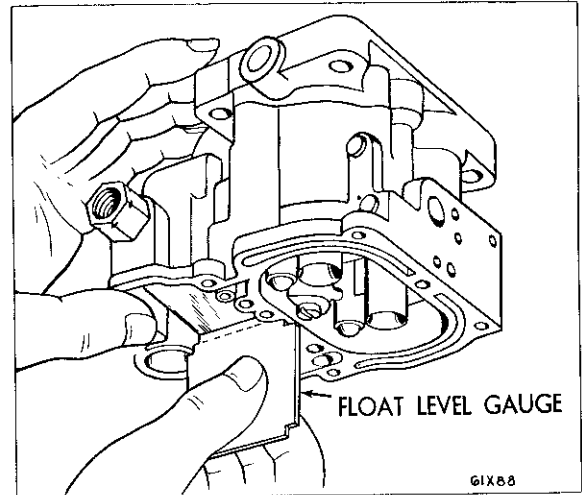

Fig. 28—Testing Float Setting
(1) Invert the main body so that the weight of the floats only is forcing the needle against the seat. **Be sure hinge pin does not drop out of the float hinge.**
(2) Using Tool 73725 or a "T" scale, measure the float level, as shown in Figure 28. There should be 1/8 inch from the surface of the fuel bowl to the crown of the float at the center.